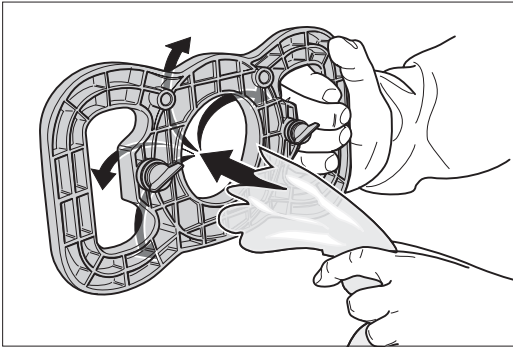

Fig. 16 Insert the waste bag in the emptying fixture.
- 7 Hold the handle of the emptying fixture and insert a waste bag from the ribbed side through the opening in the centre of the fixture (Fig. 16).